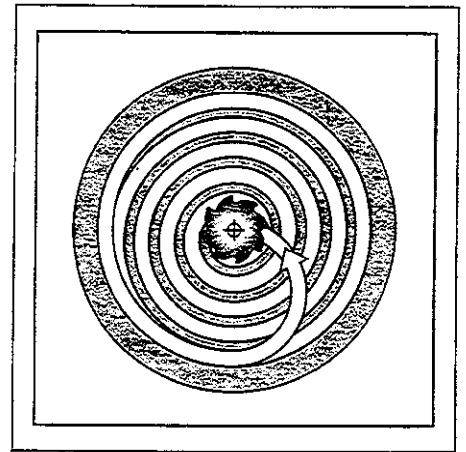

Fig. 8.10: Cutter path for roughing-out
- The cutter subsequently follows a spiral path (shown in figure 8.10) at the programmed feed rate. The stepover factor is determined by the value  $k$  (see G75/G76 POCKET MILLING, Calculations).